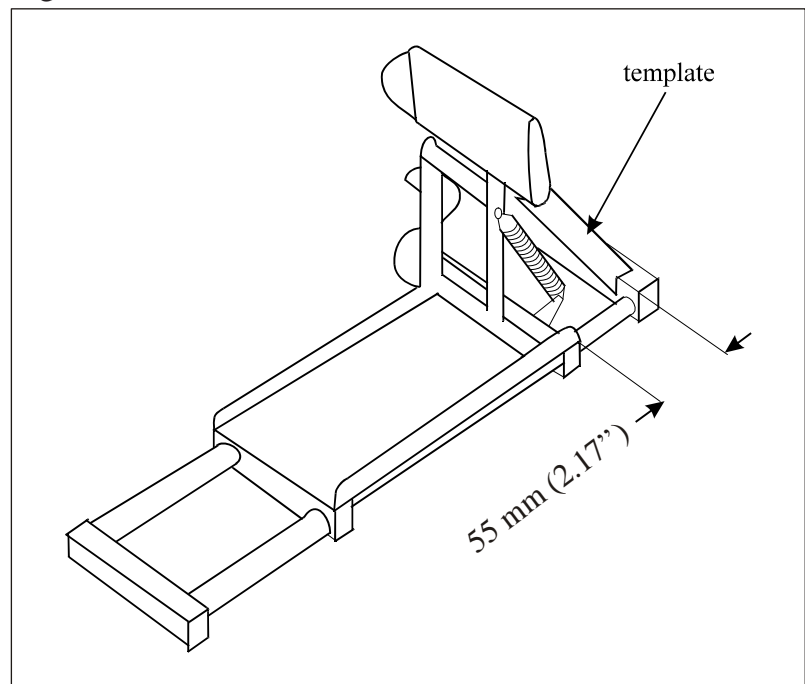

Figure 16 *Pedal Adjustment Position*
- 2 Move the pedal adjustment in a position as shown in Figure 16.